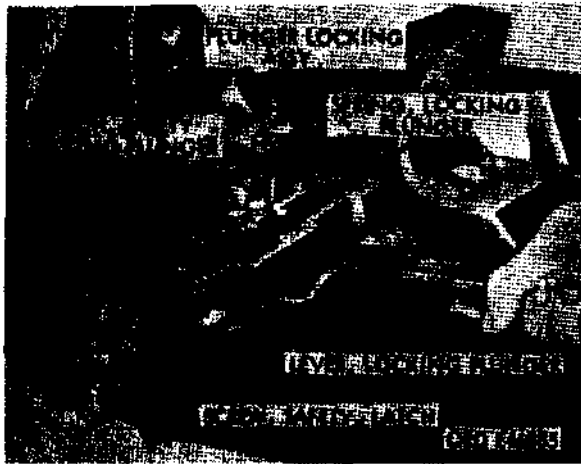

Figure 116. Removing locking plunger.
- (7) Lift up on locking plunger lever (fig. 116), and remove locking plunger spring and lever.
- (8) Remove latch safety screw (fig. 116) from locking plunger safety latch and remove latch.
- (7) Place locking plunger spring (fig. 116) on locking plunger assembly. Position locking plunger lever in position on stud. Use lever to compress locking plunger spring to position locking plunger assembly.
- (8) Position locking plunger latch (fig. 116) over stud and hook locking plunger latch spring in fifth wheel.
- (10) Position locking plunger safety latch (fig. 116) to front of fifth wheel and install latch safety screw.
- (11) Attach a chain hoist to the fifth wheel and raise into position over walking beam.